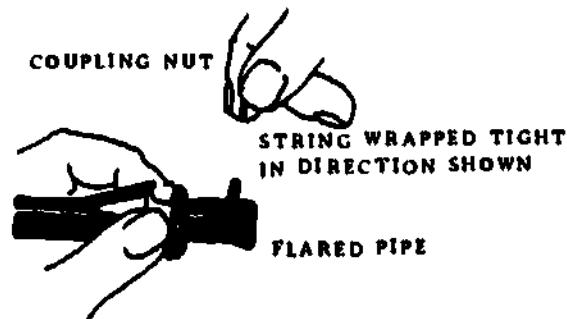

Fig 3-11. Field expedient repair of leaking fuel line connection.
- (1) **Clogging.** A blocked or clogged fuel line often opens up when air is blown through it. Disconnect the line at the pump and blow toward the tank or the carburetor, depending on the location of the trouble.
- (2) **Leaking.** Soap is the best material to stop small leaks; string wrapped tightly over a leak and coated with soap is also an effective expedient. Leaking through a crack in the line may be stopped by wrapping the line tightly with friction tape held in place by wire. Figure 3-11 shows how a leak at a connection can be temporarily repaired. Remove the coupling flange nut, wrap string around the line ahead of the nut, push the nut and string up to the connection, and tighten the nut securely. This forms a soft gasket on the flange, stopping the leak.